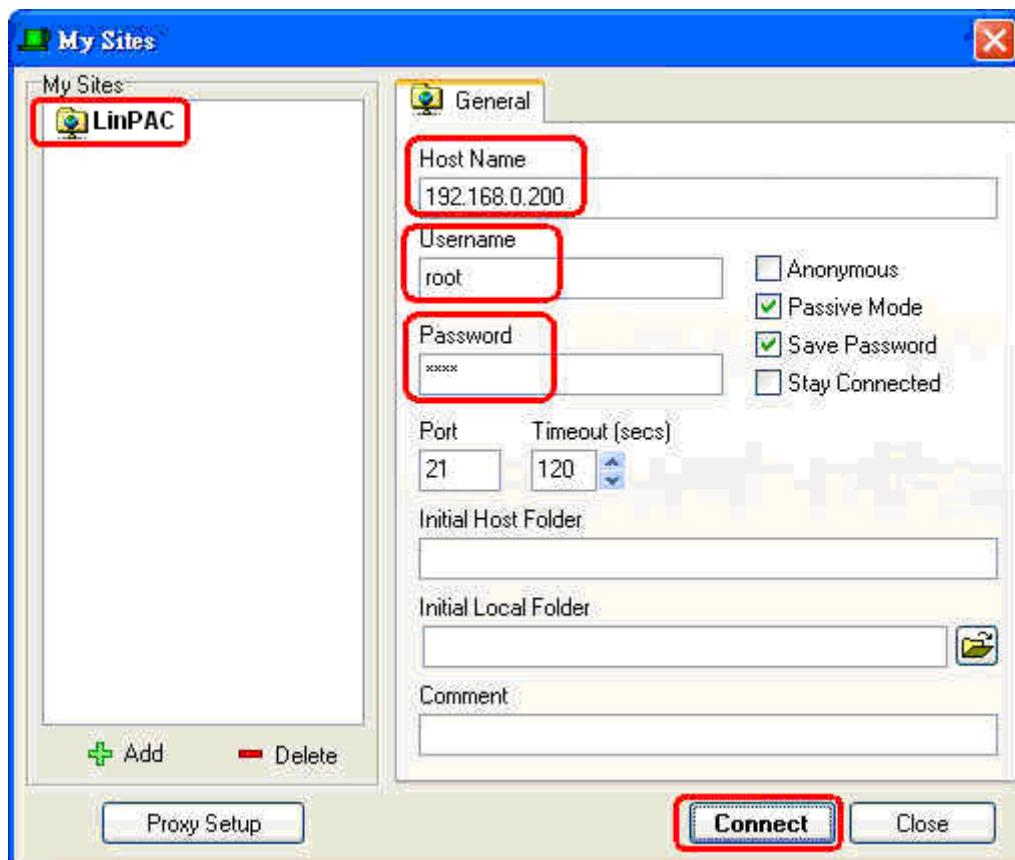

Fig.2-1
(1) Open a FTP Software and add a ftp site of the LinPAC-8000. The **User_Name** and **Password** default value is “ **root** ”. (refer to Fig.2-1).